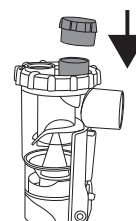

Figure 14
- In order to increase breathing resistance, you can place the PEP cap included in the delivery on to the expiration valve on the top section of the nebulizer (Figure 14).